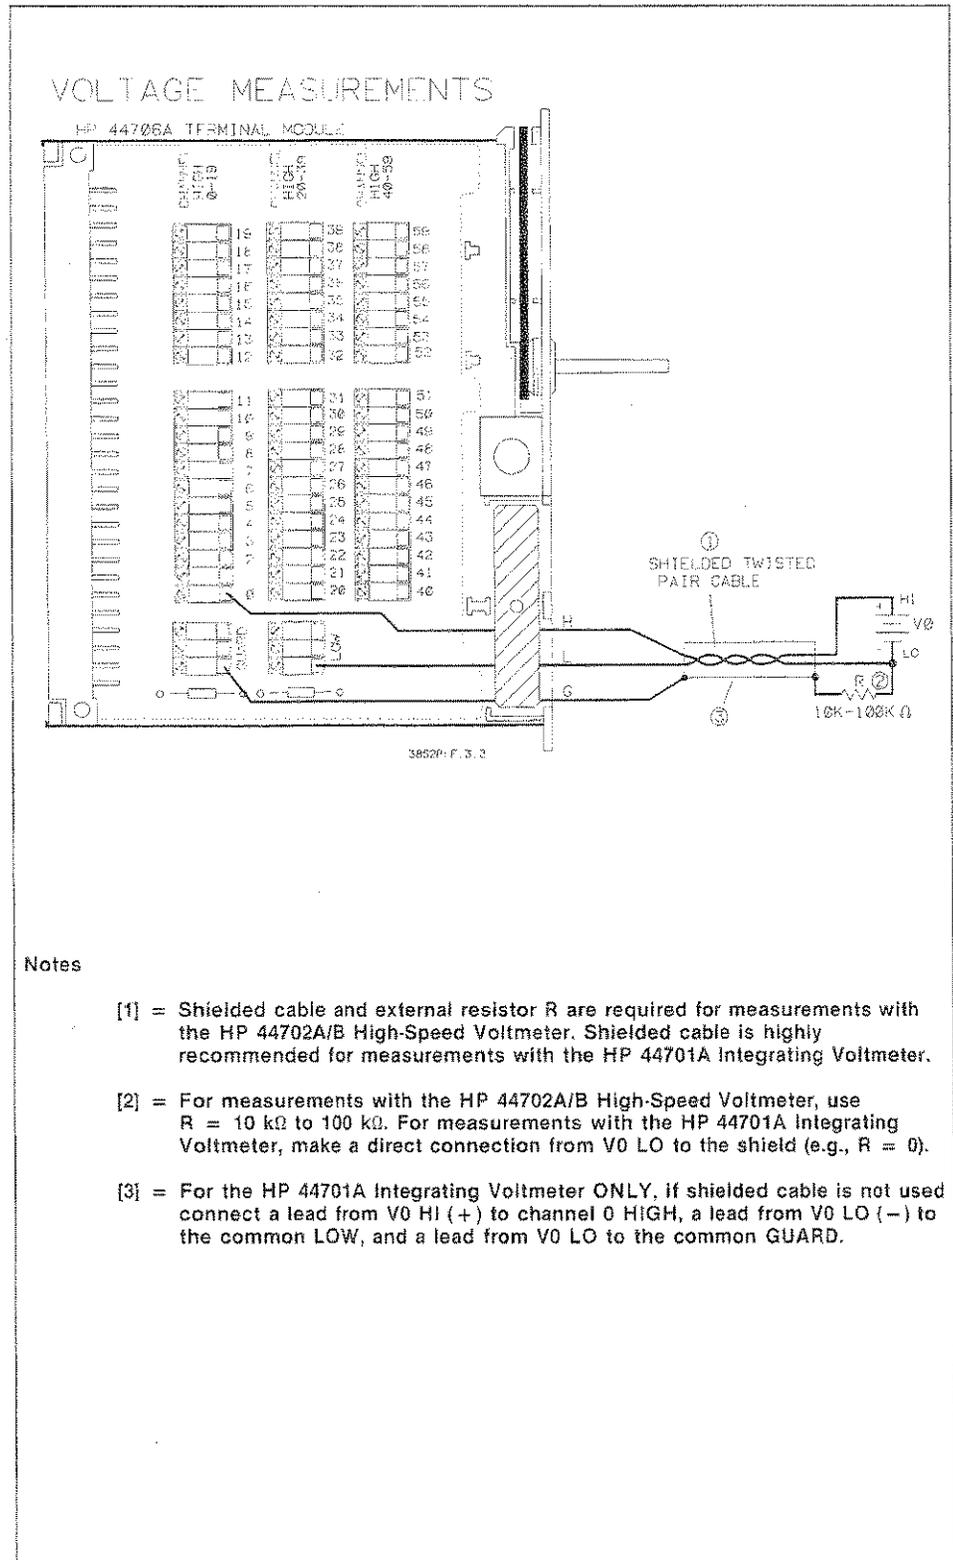

Figure 3-3. HP 44706A Voltage Connections
Figure 3-3 shows typical voltage measurement connections to channel 0 on the terminal module. Connect the HI (+) lead from the voltage source to channel 0 HIGH terminal and the LO (-) lead from the voltage source to the common LOW terminal. If a guarded (3-wire) voltage measurement is being made, connect the shield from the shielded, twisted-pair cable to the common GUARD terminal.
Since shielded, twisted-pair cable reduces measurement noise, shielded cable is required for measurements with the HP 44702A/B voltmeter and is highly recommended for measurements with the HP 44701A voltmeter. Also, for the HP 44702A/B voltmeter, an external resistor (R) should be connected between the source voltage LO and the shield, as shown in Figure 3-3.